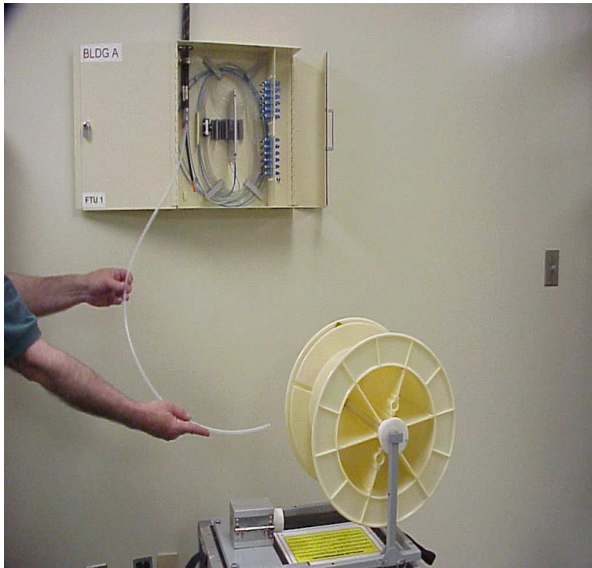

Figure 9
8.6 At exit point FTU, push-fit a Tube Coupling and an appropriate length of Installer-provided jumper tubing to tube containing fiber bundle to be removed. Position open end of jumper tubing toward empty fiber reel area. **See Fig. 9.**